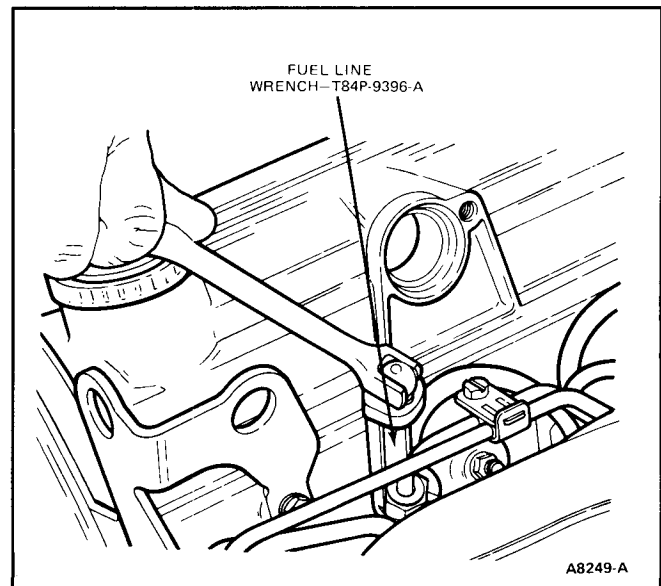

FIG. 23 Injection Pump Nozzle High Pressure Line Removal
15. Disconnect injection lines from nozzles and injection pump using Fuel Line Wrench, T84P-9396-A, or equivalent (Fig. 23).
10. Connect nozzle high pressure lines to nozzles and injection pump. Tighten to 20-25 N·m (14-18 lb-ft), using fuel line wrench, T84P-9396-A or equivalent (Fig. 23).